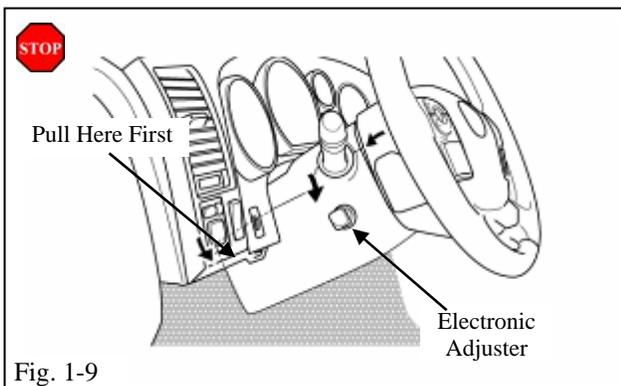

Fig. 1-9
(k) Press in on each side and pull down on the lower section of the Lower Steering Column Cover to release it from the Top Section. (Fig. 1-9)
- (l) Pull out on the Top Left Corner of the Steering Column Cover to clear the Electronic Steering Column Adjuster Knob. (Fig. 1-9)